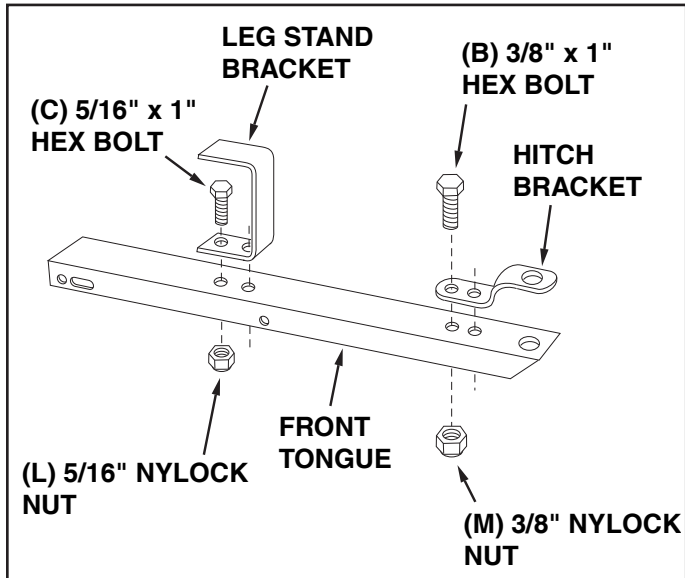

FIGURE 4
8. Assemble the hitch bracket to the front tongue using two 3/8" x 1" hex bolts (B) and 3/8" nylock nuts (M). **Tighten.** See figure 4.
9. Assemble the leg stand bracket to the front tongue using two 5/16" x 1" hex bolts (C) and 5/16" nylock nuts (L). **Tighten.** See figure 4.